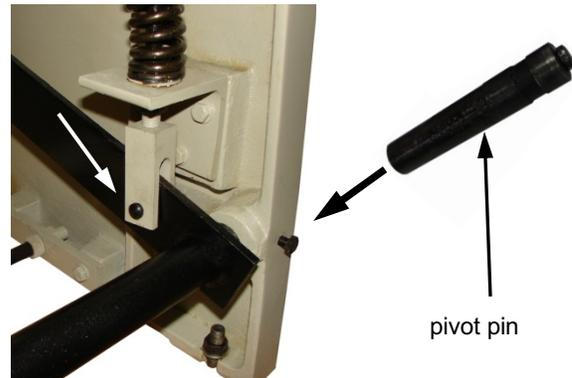

Figure 6-7
2. Move the pedal into position between the legs of the shear and attach to the yokes with short clevis pins as in (fig.6-7). Secure with cotter pins.